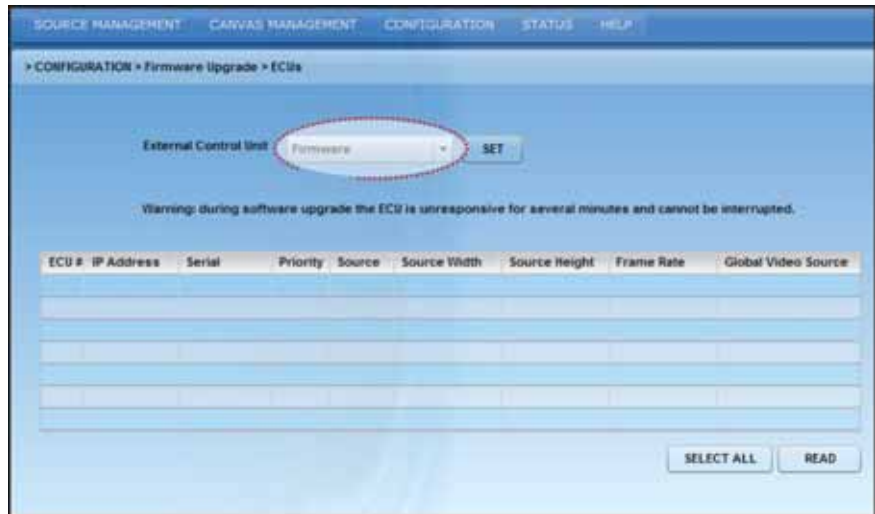

Figure 3-39 Firmware Upgrade-ECU
- a. Begin with the Firmware upgrade and then the FPGA upgrade (**Figure 3-39**). Select the desired ECU from the spreadsheet. Select **Firmware** from the **External Control Unit** drop-down menu (**Figure 3-39**) and click **Set**. This upgrade takes approximately 1 hour for every 10 connected ECUs.
1. From the WebUI, select **Configuration** from the top menu bar and **Firmware Upgrade** from the drop-down menu (**Figure 3-39**).